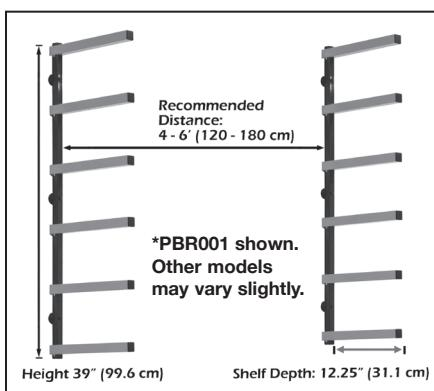

Figure 3
- Installing to drywall or other paneled wall sheeting: Locating a solid structural support for your Portamate Wood Rack is very important. Ensure that you are securely contacting the center of the wall studs. Distance between the vertical bars is optional. The recommended distance to support the designed weight capacity is **4 – 6 ft. (120 - 180 cm)**. For longer material or greater weight, multiple wood racks can be used. Figure 3. The assembled Wood Rack is 1-5/8" (41mm) thick so a suitable length of fastener is 3" (76mm) and 1/4" (6mm) diameter.